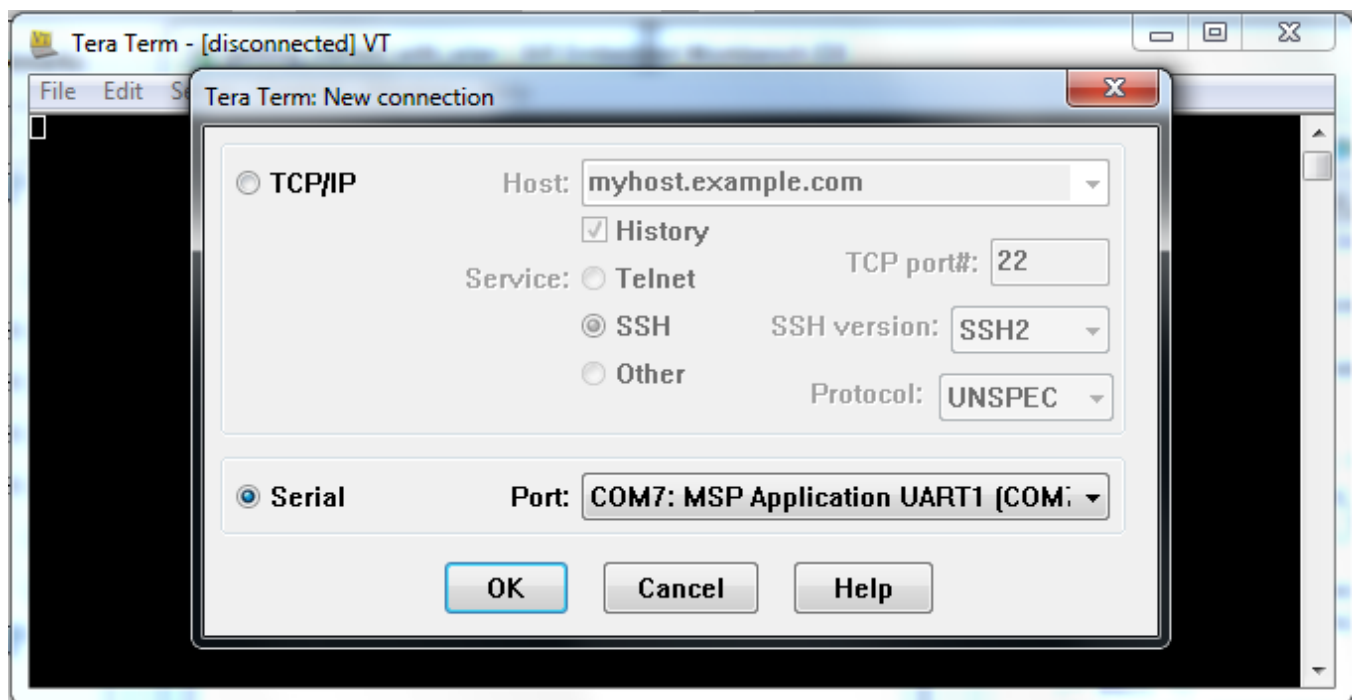

Figure 13. Launch Tera Term
8. Launch Tera Term, and create a new serial connection to the MSP430F5529 Launchpad COM port as shown in Figure 13. The baud rate should remain at 9600.